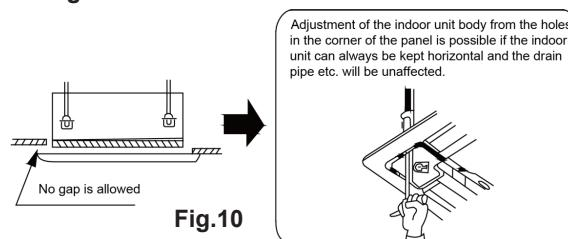

Fig.10
(8) If gap still exists between ceiling and decoration panel after tightening the screws, readjust the height of the indoor unit. Fig.10.